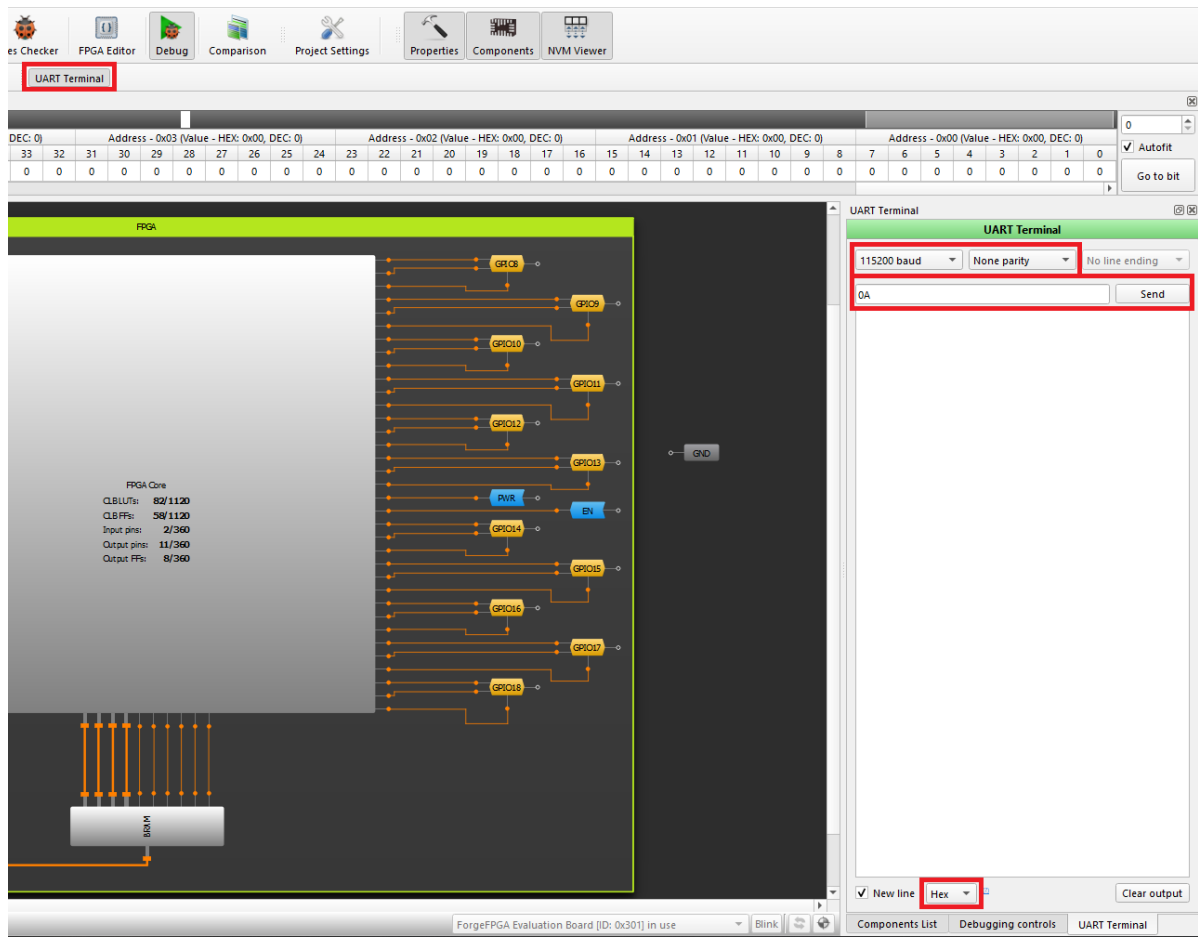

Figure 9: UART Terminal
13. The user can then send the desired data from the UART Terminal to the PmodSSD in Hexadecimal form. The user needs to set the Baud Rate as 115200 and set the Parity Bit to “None Parity”. The user can type the desired data (HEX) they want to send to the Pmod in the UART Terminal (See Figure 9) and then click Send to see it appear on the PmodSSD. (See Figure 10)